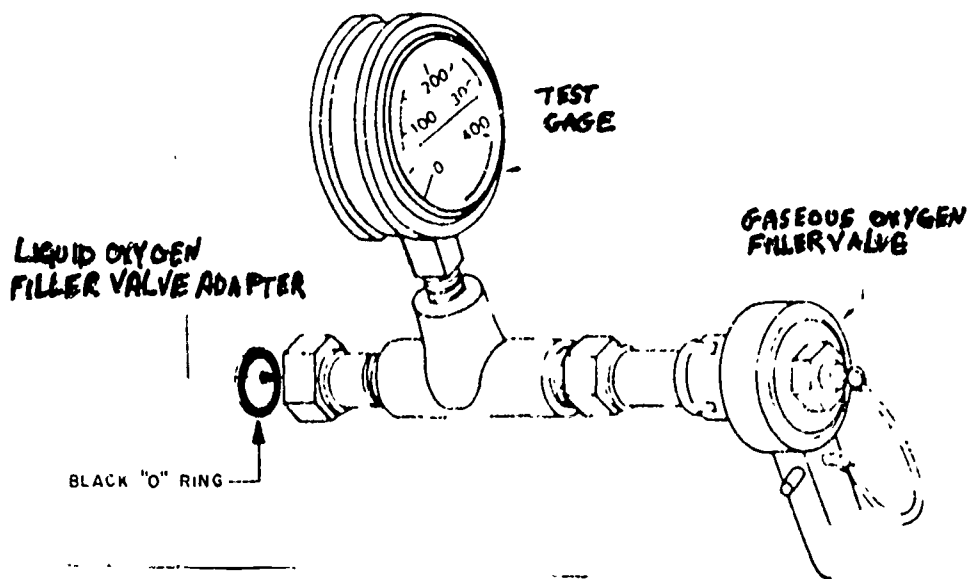

Figure 3. Master Oxygen Test Gage TTU-28/E.
d. Connect the TTU-28/E master test gage to the trainer. Screw the liquid oxygen filler valve adapter of the gage (figure 3) on the threaded part of the liquid oxygen filler valve. Be sure rubber "O" ring is attached to end of filler valve adapter before connecting to trainer. Tighten filler valve adapter using the proper tool.
e. Connect the charging valve to the gaseous oxygen filler valve (figure 3) on the master test gage. The gaseous oxygen filler valve is a quick disconnect unit. The adapter on the charging valve will lock automatically.